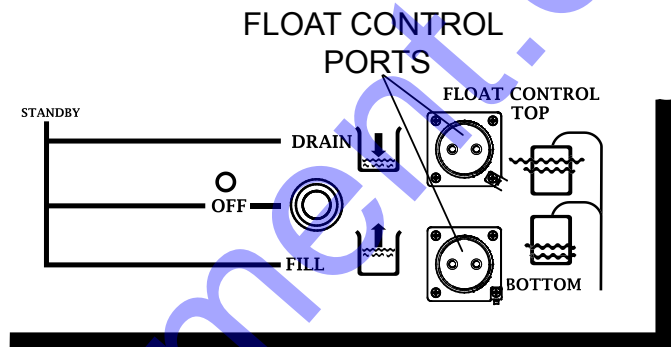

Figure 14. Float Control Ports
2. Connect the terminal plugs of float switches to the float control ports on the control panel (Figure 14)